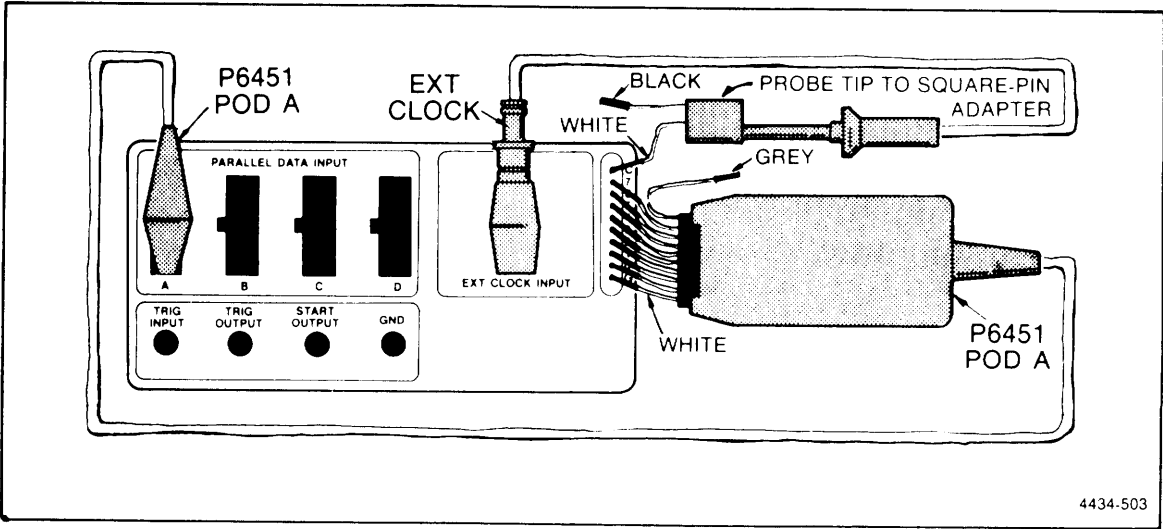

Figure 5-9. 318 Parallel data acquisition check setup.
- a. Power-up the 318 and connect the P6107 External Clock probe tip to TEST OUTPUT-C on the right side pannel. Refer to Figure 5-9.